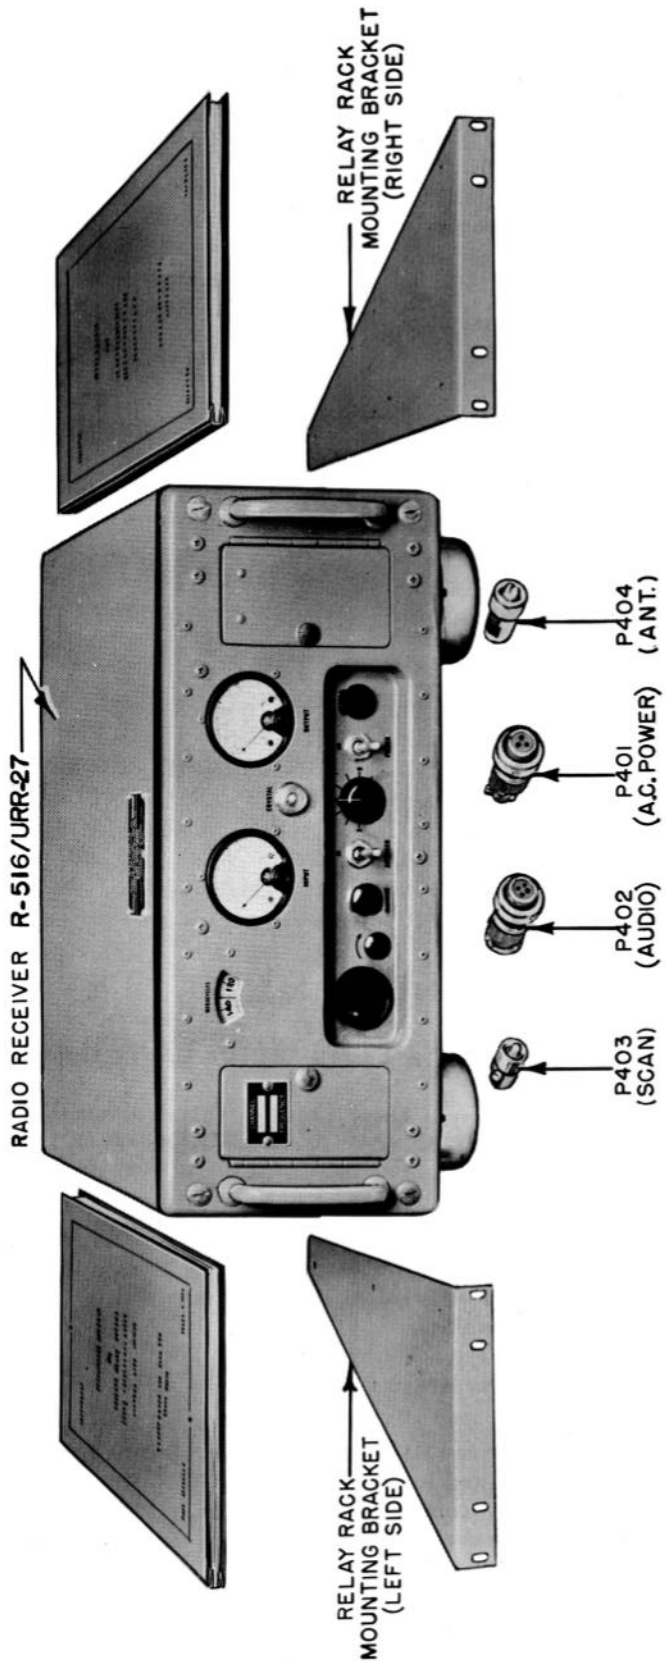

Figure 1-1. Radio Receiving Set AN/URR-27 Complete, Including Radio Receiver R-516/URR-27, Brackets, Plugs and Instruction Books
c. EQUIPMENT ARRANGEMENT.—Radio Receiving Set AN/URR-27 is shown complete in figure 1-1. It consists of the receiver proper (Radio Receiver